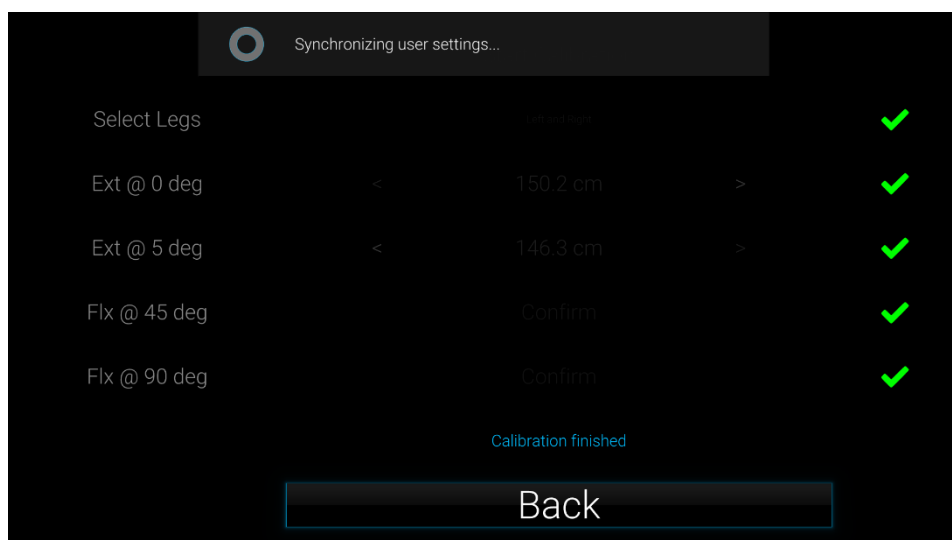

**Figure 19:** Expert Calibration completed successfully screen
- The user should now be calibrated (Fig. 19).